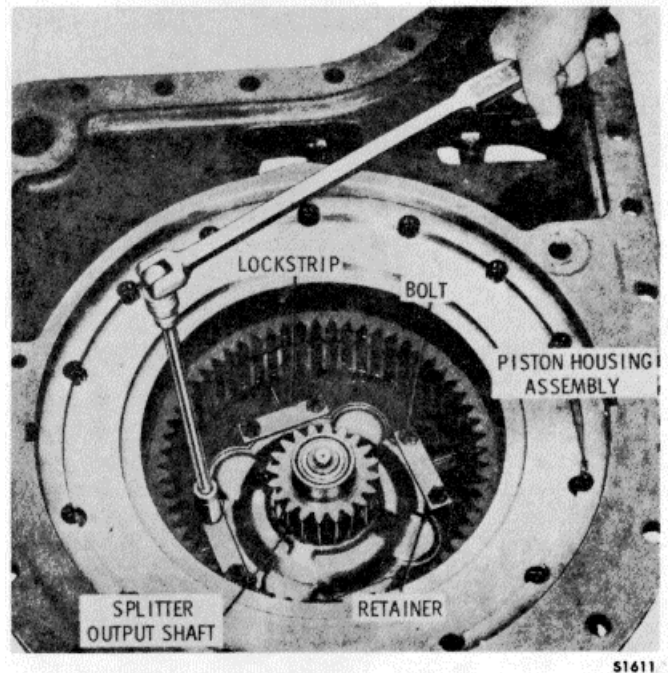

Figure 15-72. Removing Splitter Output Shaft Retainer Bolts
6. If present, flatten the ends of each of the four lockstrips (Figure 15-72). Remove eight self-locking bolts. Remove